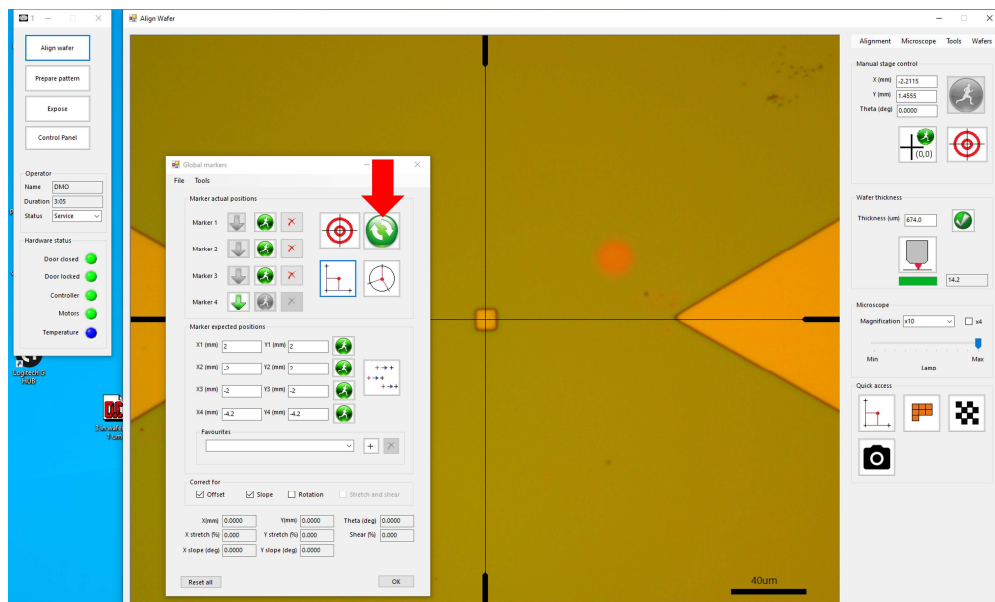

Figure 7 Refresh markers positions after placing markers positions.
- I. (Optional) Refresh marker positions: Click the “Refresh marker positions” button (Figure 7).